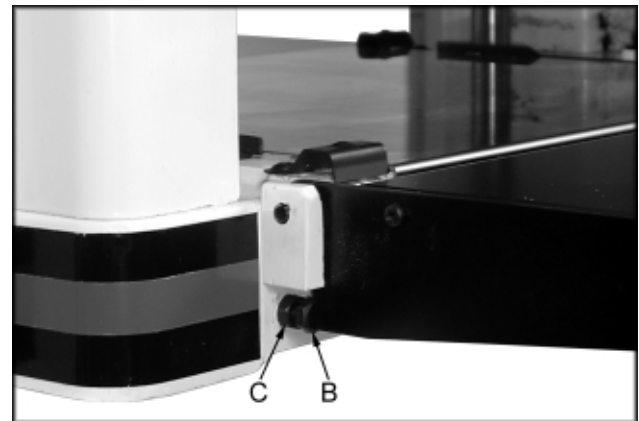

Fig. 4
4. Loosen lock nuts (C, Fig. 4) and adjust bolts (B, Fig. 4) until the extension table rollers are level with the table.
1. Measure and mark location for holes to be drilled as per the diagram in Figure 4.